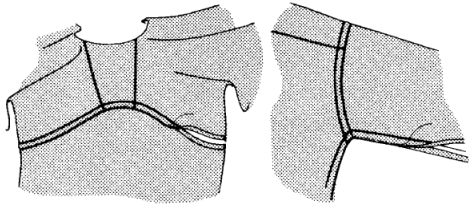

Figure 20
3. Complete flat-fell seam by turning garment seam allowance under. Topstitch to sleeve approximately $\frac{1}{4}$ inch from first line of stitching. Stitch sleeve and side seam; finish (Figure 20).